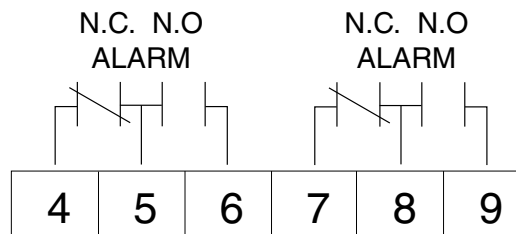

Figure 5-2
- a. The relay circuits consist of double-pole double-throw relay contacts brought out to terminal strips. When the relays are operating properly, one pair of contacts will be open with high or low level, and one pair will be closed with high or low level. See Figure 5-2.